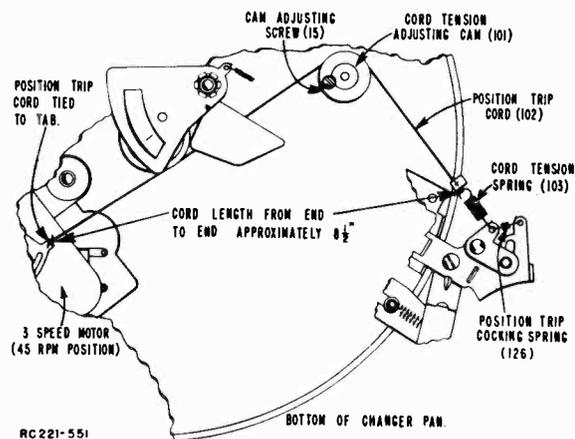

Figure 11. Adjusting Cord Tension.
The position trip cord (102) is ordinary braided silk or nylon dial cord approximately $\frac{1}{2}$ " thick. To replace this cord, cut a piece of dial cord about 10" or 12" long and tie one end to the tab on the motor. See figure 11. This is most easily done by either making a slip knot so the knot will tighten when the cord is placed over the tab on the motor and pulled, or removing one end of the idler wheel spring (57) and pivoting the idler wheel and bracket out of the way. Tie the other end of the cord to the cord tension spring (103) so that the distance between the two knots is approximately $8\frac{1}{2}$ ". Late production record changers have a metal clip (137) to fasten the cord at the tension spring end. After threading the cord under the control cam (91), hook the cord tension spring as shown in the illustration. Then adjust the cam (101) as outlined under "Position Trip Cord Tension Adjustment."